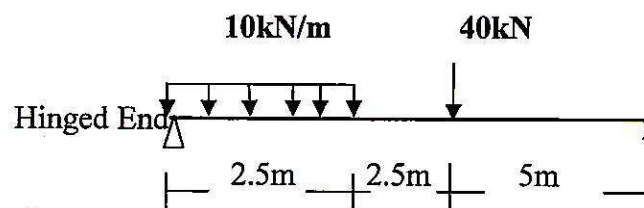

Fig. 3
6. (a) Draw Shear force diagram and Bending Moment diagram for the beam as shown in Fig. 3. Indicate the numerical values at all important section. Find the position and value of maximum bending moment. [7]